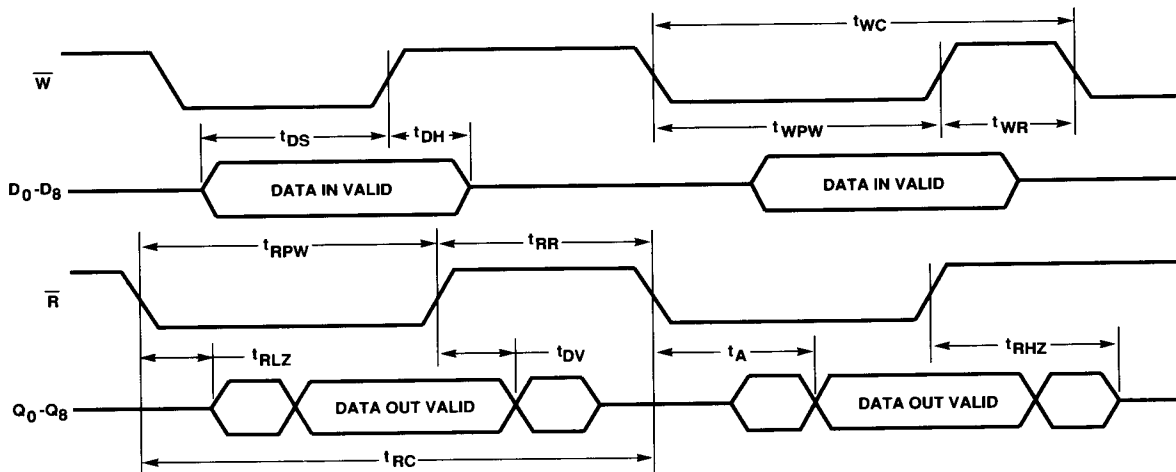

Figure 3. Asynchronous Write and Read Timing
The HIGH state of the Full Flag ($\overline{FF}$) indicates that the FIFO is capable of accepting data. The falling edge of Write (W) initiates a write cycle. (See Figure 3.) Data appearing at inputs D0-D8 t_{DS} prior to and t_{DH} after the rising edge of W will be stored sequentially in the FIFO.
The HIGH state of the Empty Flag ($\overline{EF}$) indicates that the FIFO is ready to output data. The falling edge of Read (R) initiates a read cycle. (See Figure 3.) Valid data appears on the outputs Q0-Q8 t_{d} after the falling edge of R, and remains until t_{dV} after the rising edge of R. Q0-Q8 return to a high-impedance state when a valid read is not in progress.